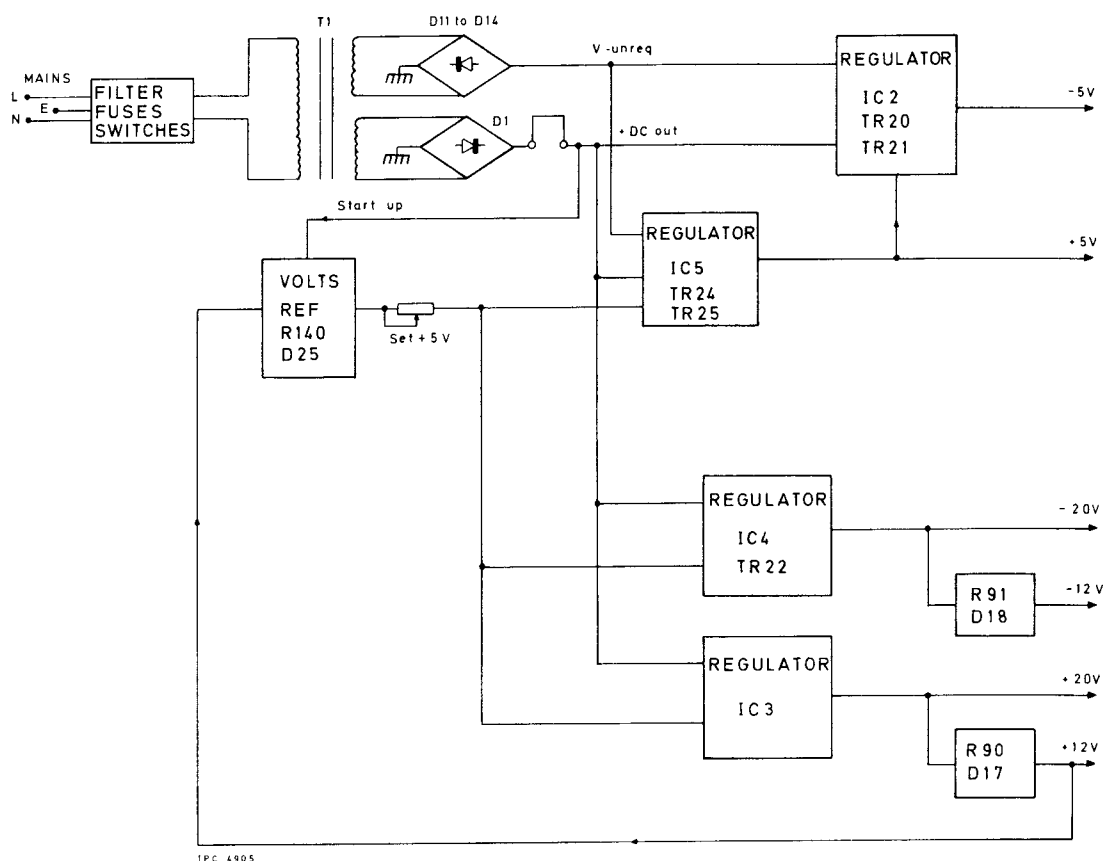

Fig. 10 AC mains power supply : block diagram
90. Fig. 10 is a simplified block diagram showing the key components of the a.c. mains power supply.